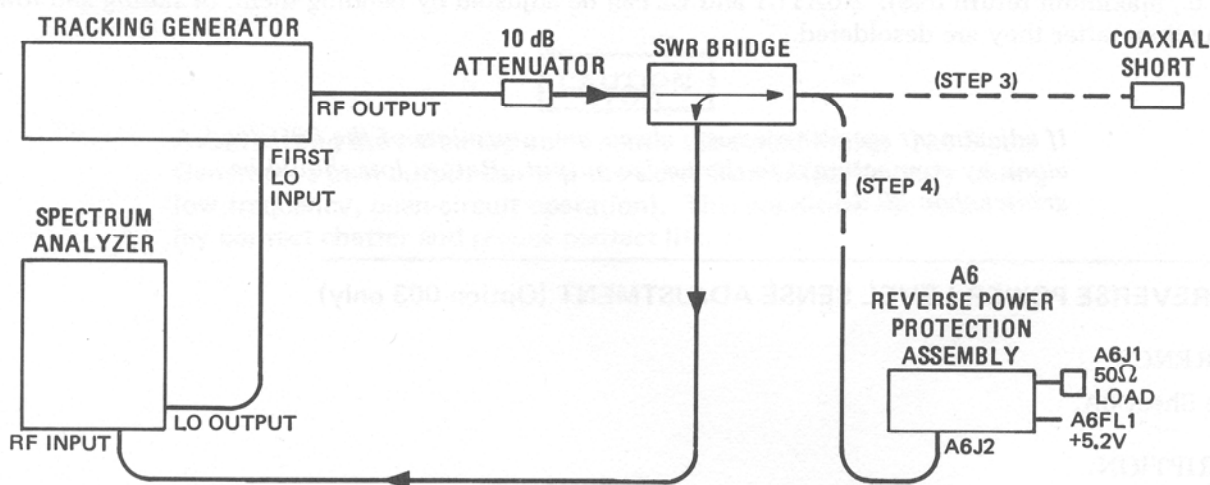

Figure 5-9. Output Impedance Adjustment Setup (Option 003)
3. Connect equipment as shown in Figure 5-9.